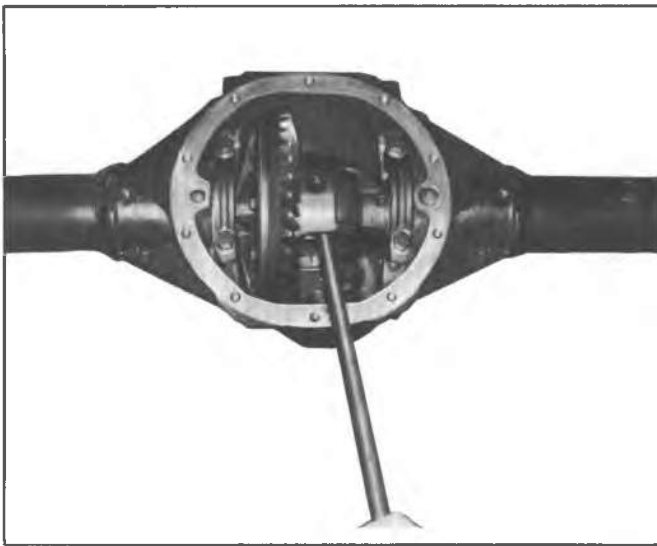

Fig. 4B-2--Differential Case Removal
5. Using a pry bar as shown in figure 4B-2, pry differential case out of carrier. Exercise caution in prying on carrier so that gasket sealing surface is not damaged. If the bearings are preloaded, the case will suddenly fall free when it is pried past a certain point; therefore, make sure case is properly supported to prevent damage. The bearing cups may be loosely installed, as shown in figure 4B-2, to prevent case from falling.